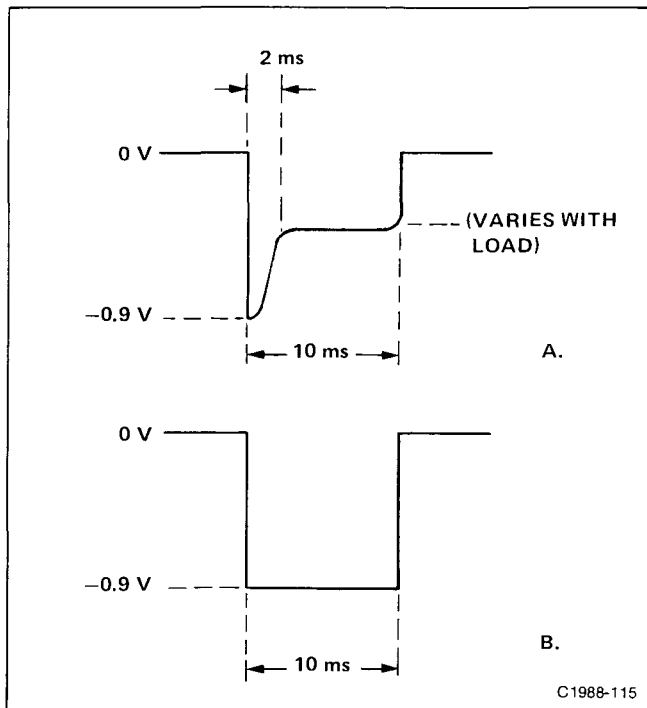

Figure 4-4. Current sensing waveform at A24R84 showing: A. Power supplies not in current limit operation. B. Power supplies in current limit operation.
3. Compare the waveform on the test oscilloscope to those shown in Figure 4-4. If the waveform resembles that of Figure 4-4A, proceed to Step E of this procedure. If it resembles that of Figure 4-4B, proceed with part 4 of this step.